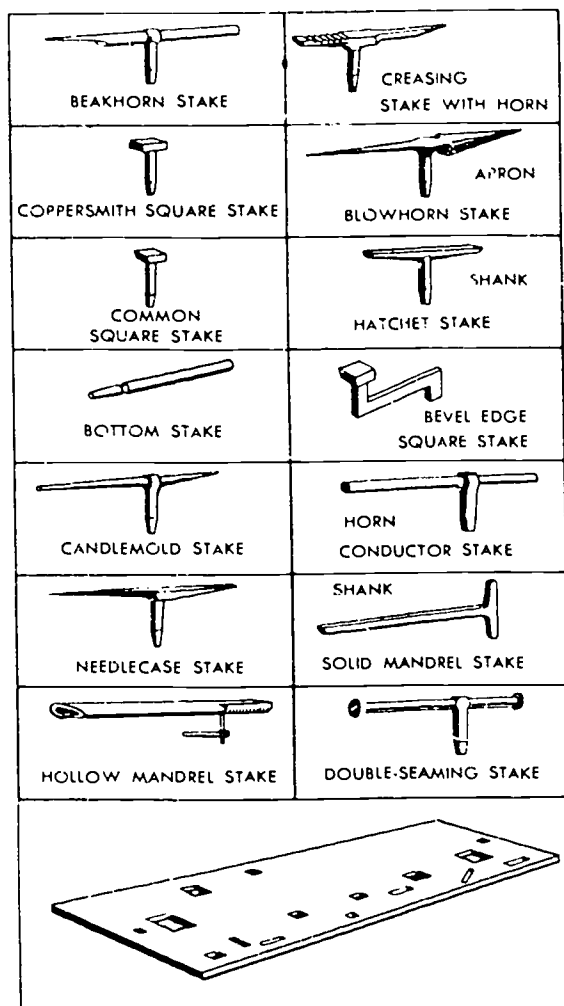

Figure 3-19. Bench plate and stakes.
**Bench plate and stakes.** Much of the work done in the sheet metal shop requires some handwork, such as shaping, seaming, and riveting. To do this work, small anvils, referred to as stakes, have been designed to perform many types of shaping and seaming which cannot be done by machines. These stakes, which consist of a horn, head, and shank, are fastened either in a vise or to a bench plate. Figure 3-19 shows a bench plate with a set of stakes designed to do almost any sheet metal forming that can be done by hand. The stakes described in the following paragraphs are the ones most often used. Other stakes include the beakhorn, common square, hatchet, conductor,